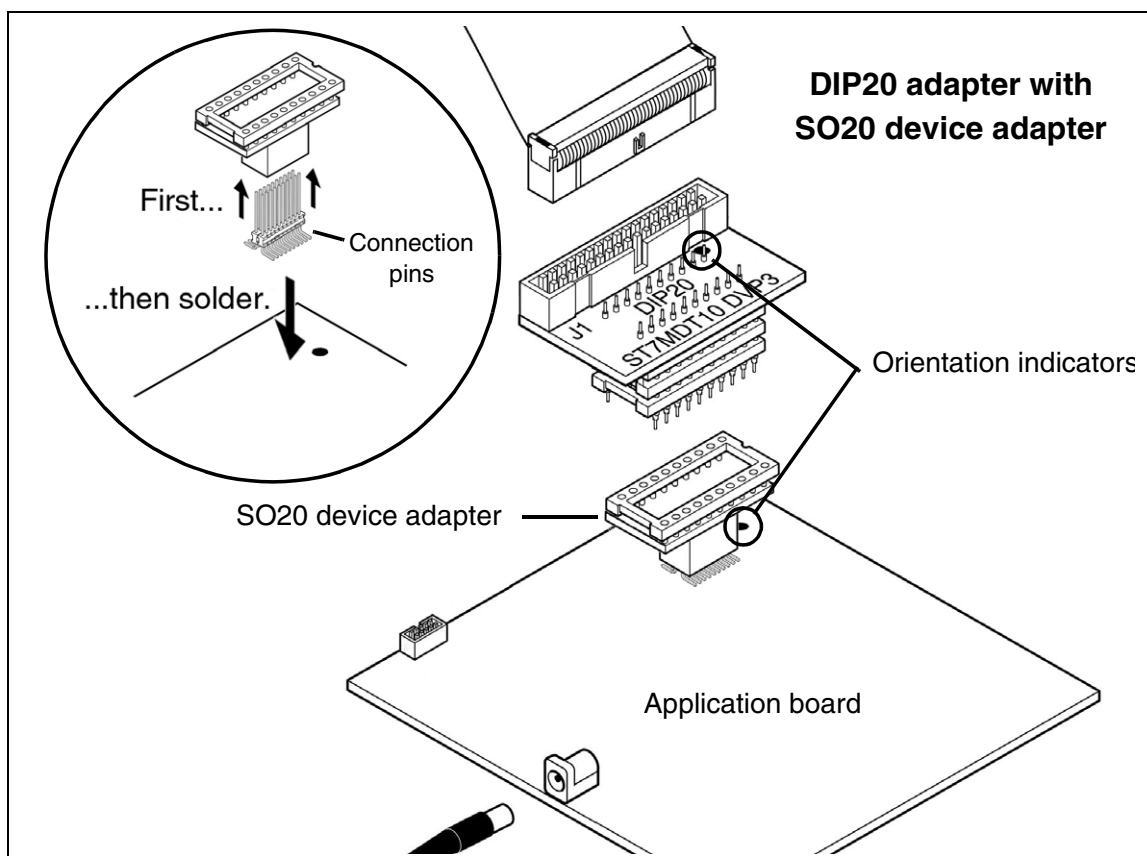

Figure 8: SO20 connection to application board
- 1 Solder the connection pins to your application board. When soldering, insert the two sets of connection pins into the device adapter. The device adapter will serve as a support during soldering and will ensure the correct spacing and alignment of the pins (see inset in Figure 8).
- 4 Plug the other end of the 34-pin flat cable into J1 on the DIP20 adapter (ref.: DB586), as shown in Figure 8.
- 5 Insert the pins of the DIP20 adapter into the SO20 device adapter (ref.: DB093) as shown in Figure 8. Align the orientation indicators on the DIP20 adapter and on your application board to ensure that its pin number 1 is aligned with pin 1 on your application board.